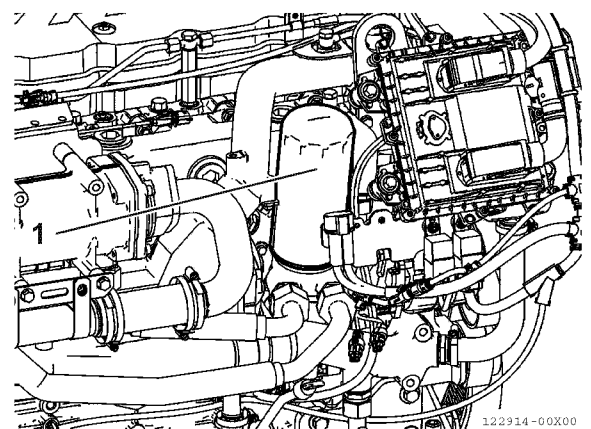

Figure 8
- Place a container under the filter support (**Figure 8, (1)**), to collect the spent oil.